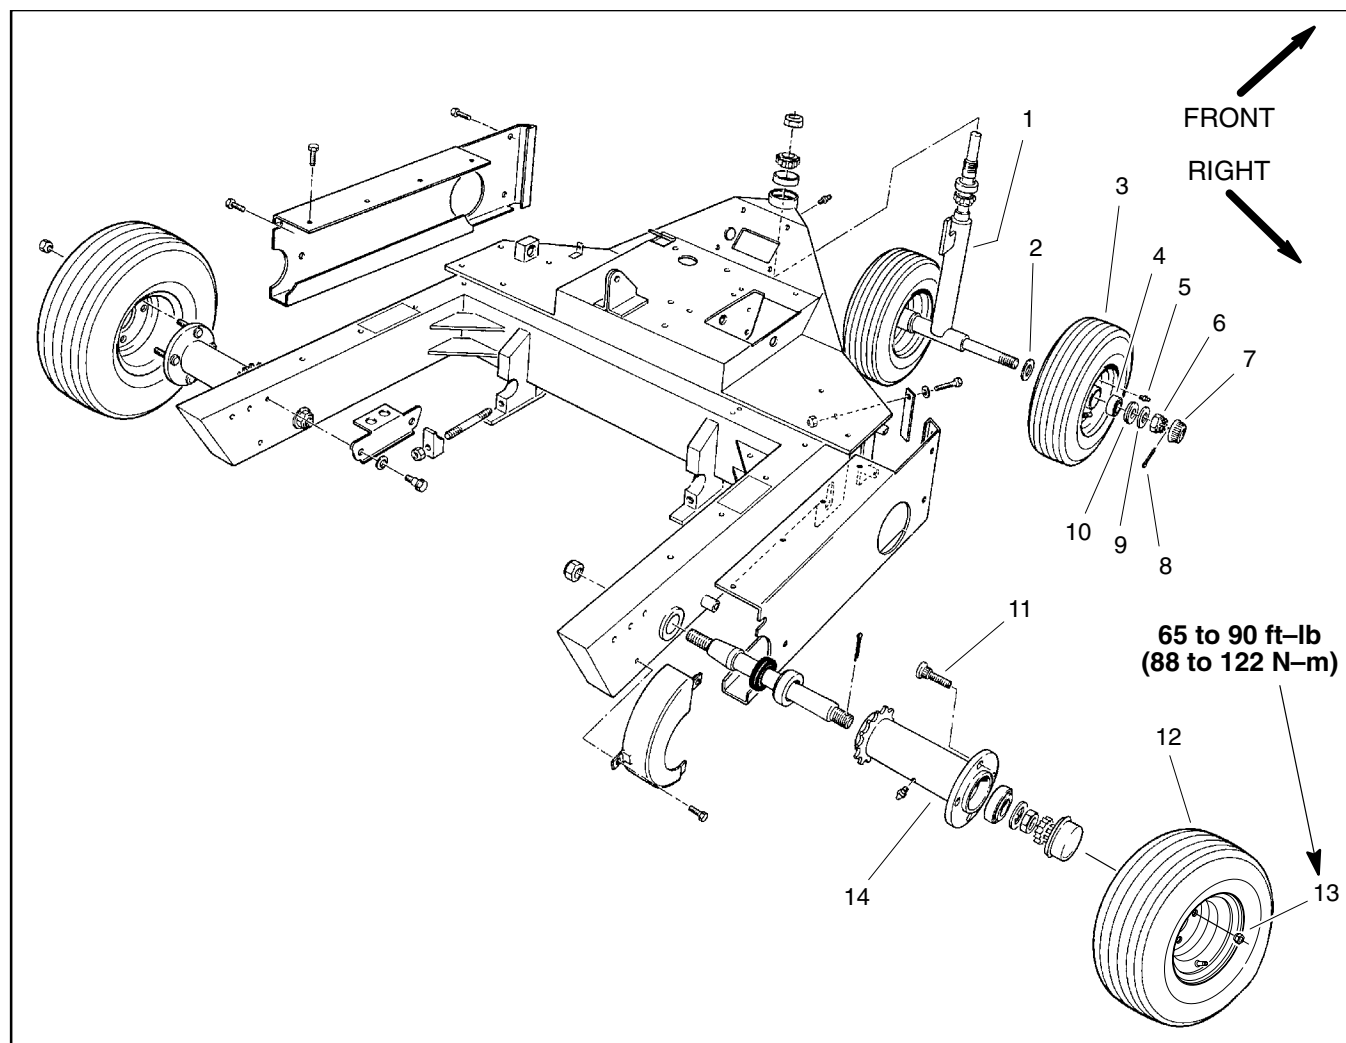

Figure 1
**Rear Wheel Removal (Fig. 1)**
4. Loosen and remove four (4) lug nuts that secure rear wheel to be removed.
**Rear Wheel Installation (Fig. 1)**
2. Secure wheel to machine with four (4) lug nuts. Torque lug nuts from 65 to 90 ft-lb (88 to 122 N-m).
**Front Wheel Removal (Fig. 1)**
**Front Wheel Installation (Fig. 1)**